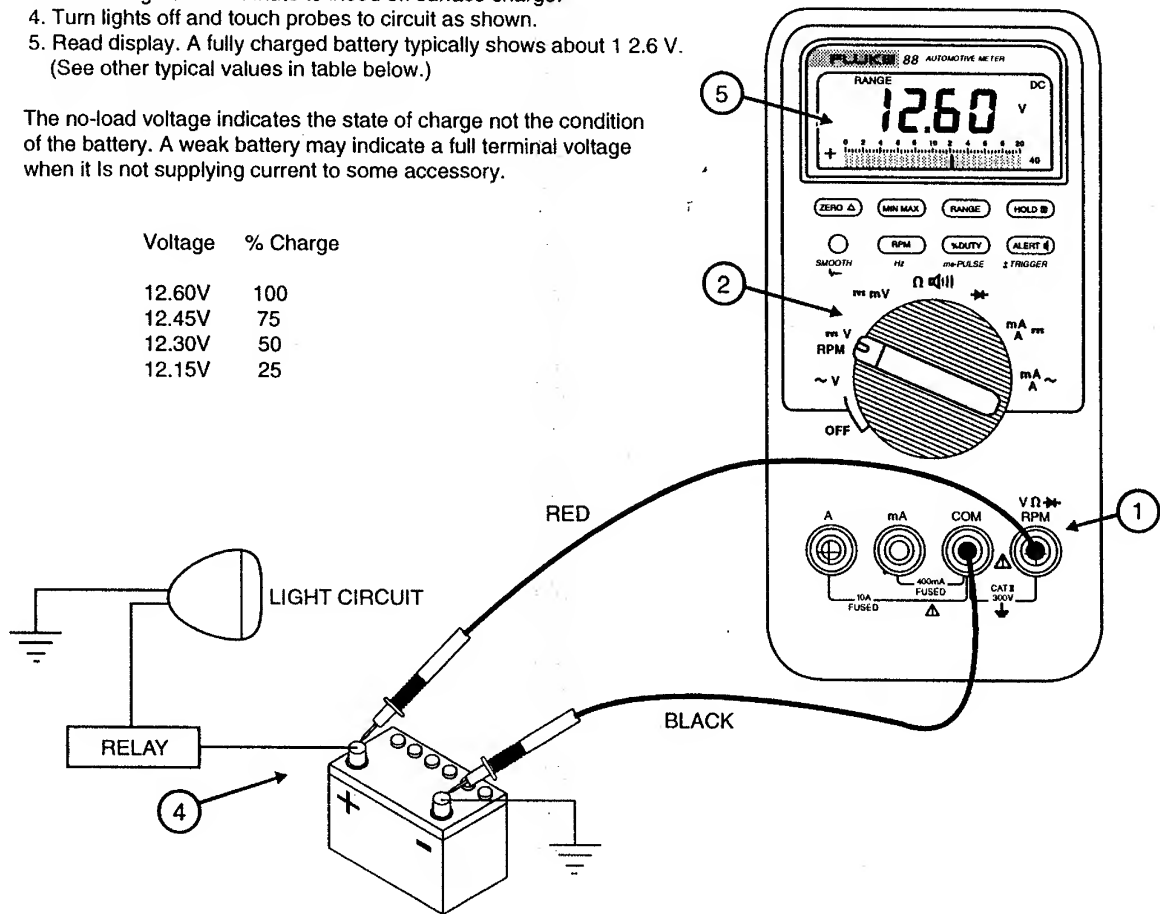

Figure 6. Measuring No-Load Voltage of Battery
**TO AVOID PERSONAL INJURY OR EQUIPMENT DAMAGE, NEVER ATTEMPT A VOLTAGE MEASUREMENT WITH A TEST LEAD IN THE AMP (A) OR MILLIAMP (mA) INPUT TERMINAL. IF YOU ATTEMPT TO DO SO (AND THE BEEPER IS NOT DISABLED), THE BEEPER EMITS AN INPUT ALERT IN THE FORM OF A CLICKING SOUND.**
3. Touch the probes to the circuit, with the red probe nearer to the voltage source than the black probe. This puts the Meter in parallel with the circuit (see example in Figure 6). *Voltage must always be measured with the Meter in parallel with the circuit.*
Figure 6 shows how to measure the no-load voltage of a battery.